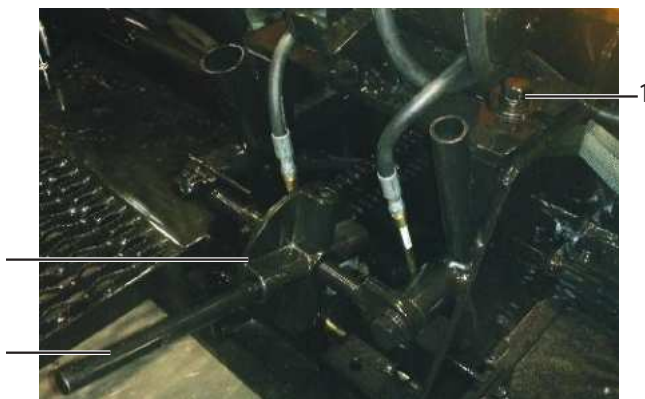

Figure 4-48. Crown Adjustment
2. Remove the crown handle and insert into adjuster. **(Figure 4-48)**